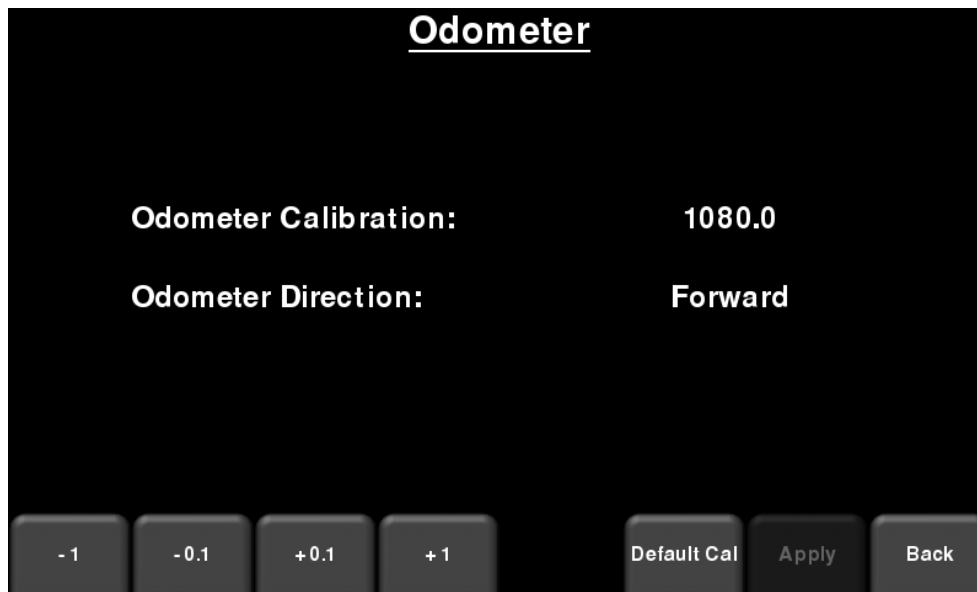

Figure 5-40: Manually setting odometer calibration value
- **Manual** – If you want to manually insert a value, it can be done using the buttons on the bottom of the screen to increment or decrement the calibration value (Figure 5-40).